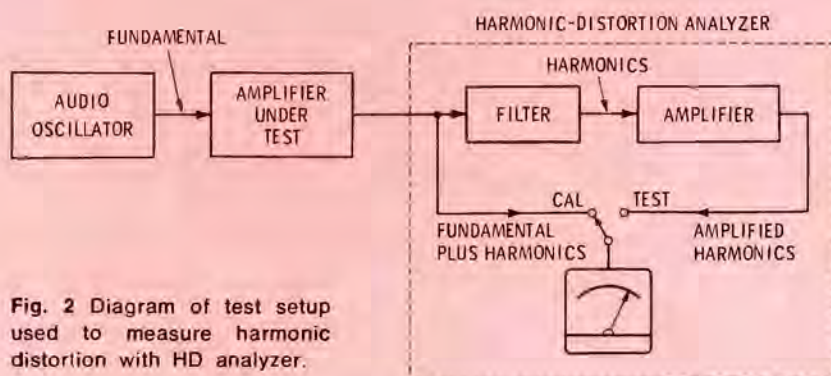

Fig. 2 Diagram of test setup used to measure harmonic distortion with HD analyzer.
The basic design of a harmonic-distortion meter is shown in Fig. 2. It contains a tunable frequency-reject filter, an amplifier, and a meter calibrated in percentage of harmonic distortion. In operation, the audio oscillator is set to the desired test frequency, such as 1 KHz, and the output from the amplifier is fed to the meter. An attenuator (not shown in Fig. 2) is then set for the reference calibration by bringing the meter pointer to full-scale indication. We are then ready to measure the percentage of harmonic distortion in the audio signal.
3. If an audio amplifier is being tested, as shown in Fig. 2, a power resistor of suitable value should be connected across the